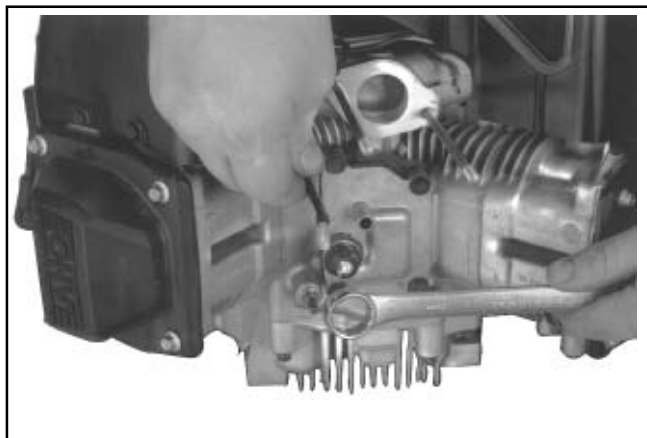

Figure 9-27. Removing Oil Sentry™ Switch.
2. Remove the Oil Sentry™ switch from the breather cover (see Figure 9-27).